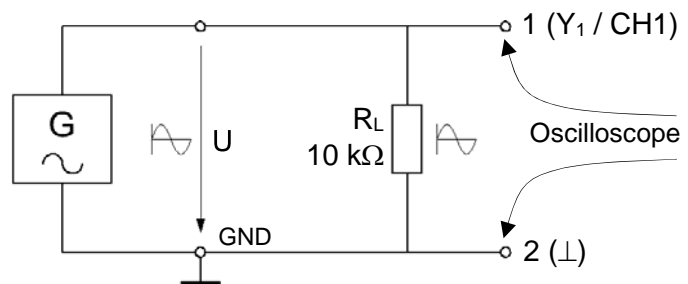

Fig. 8.2.2.1: Sine-wave generator with load resistor, R_L
- Assemble the circuit in Fig. 8.2.2.1 on the Electronic Circuits Board (notes on assembly will be found in section 8.2.3).